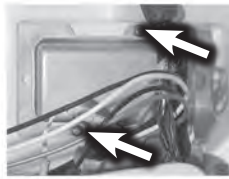

Figure 6
6. Remove the 2 screws on the cover plate and remove, see figure 6.